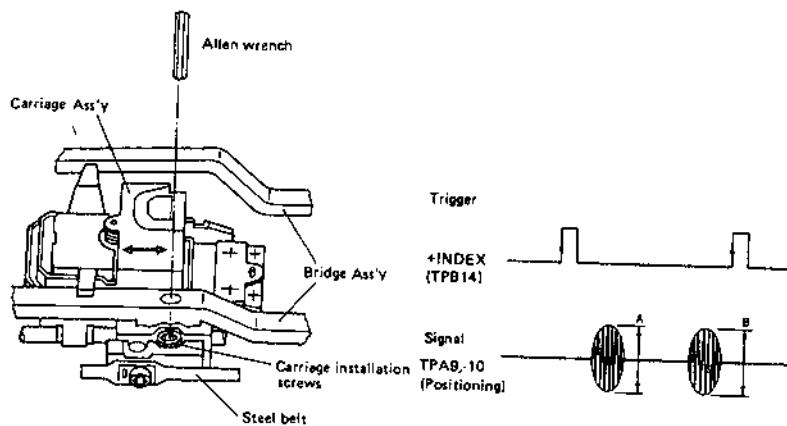

Figure 7
- 4 Seek TK00 to TK16 then read amplitude of each waveform (positioning waveform) at TPA9, TPA10 under read mode (see Figure 7).